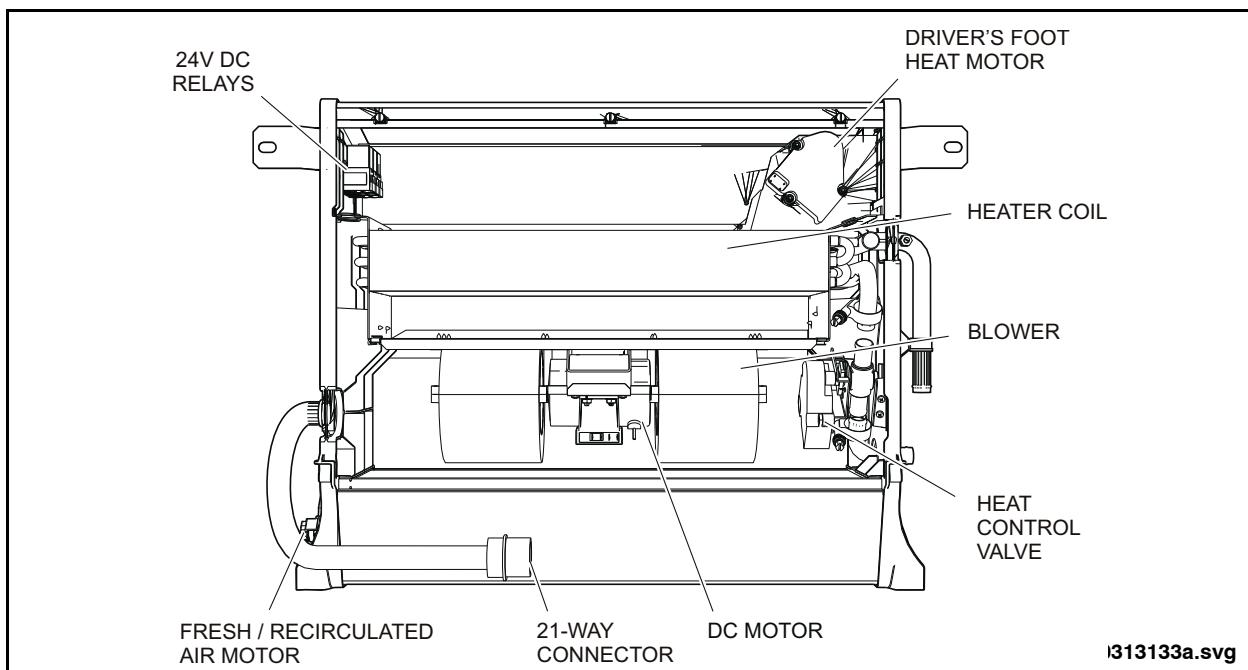

Fig. 10-8: Defroster Components
2. Open the defroster/wiper access door to gain access to the defroster power harness. See "Fig. 10-8: Defroster Components" on page 26.